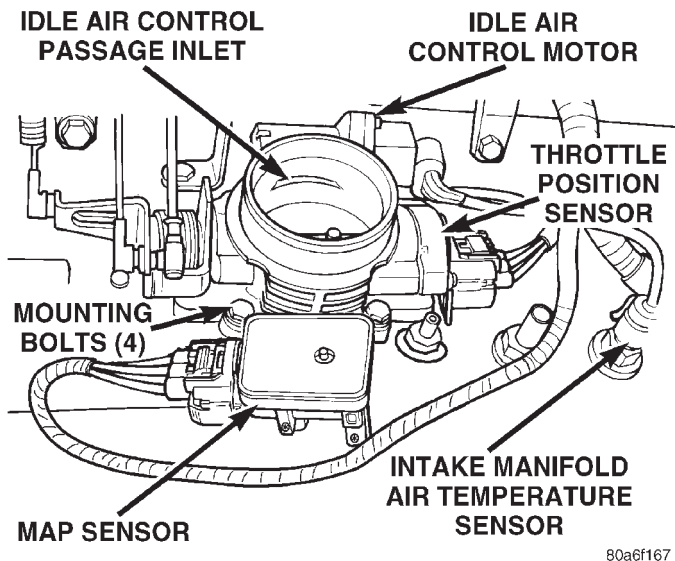

Fig. 58 Intake Manifold Air Temperature Sensor—4.0L Engine
(1) Disconnect the wire harness connector from the intake manifold air temperature sensor (Fig. 58).
To perform a complete test of the TPS (Fig. 58) and its circuitry, refer to the DRB scan tool and appropriate Powertrain Diagnostics Procedures manual. To test the TPS only, refer to the following: